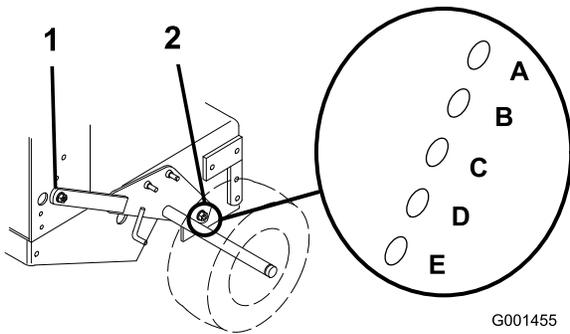

Figure 18
- Loosen, but do not remove, the 2 axle pivot bolts and the 2 axle adjustment bolts (Figure 18).
- Place a jack under the rear center of the engine frame. Raise the back end of the engine frame up enough to remove the front 2 axle adjustment bolts (Figure 18).
- Raise or lower the engine frame with the jack so that you can install the front 2 axle adjustment bolts in the desired hole location (Figure 18).